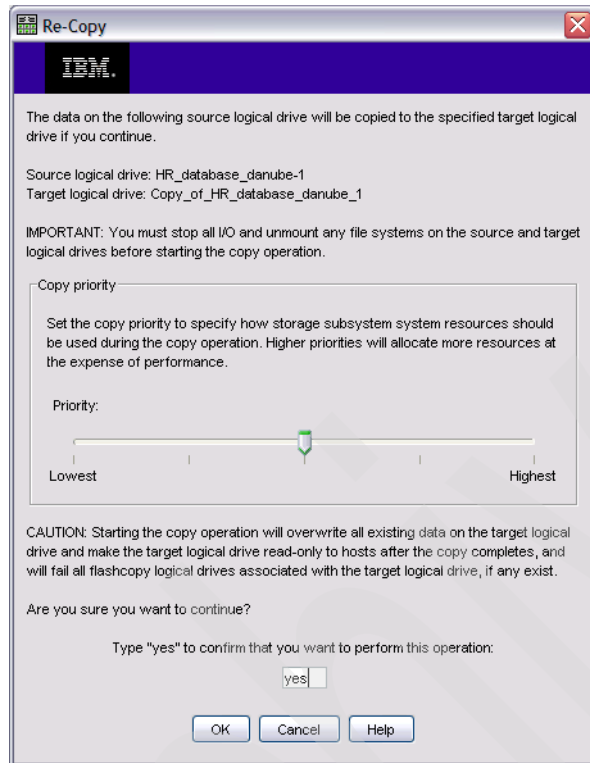

Figure 11-48 Logical Drive Copies - Re-Copy
2. The Re-Copy window opens (Figure 11-48). Review the information, select a copy priority, and type yes to confirm that you want to perform this operation. Click **OK** to start.